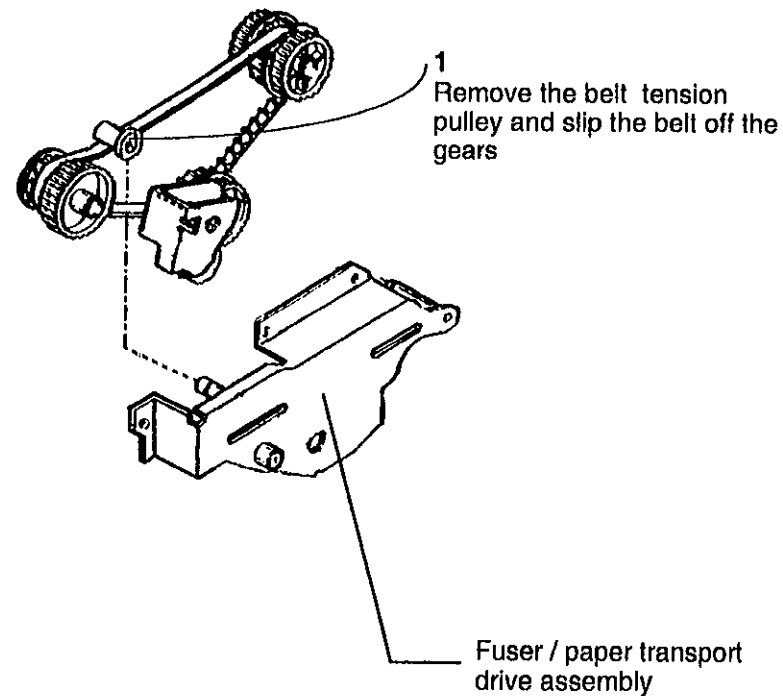

Figure 1. Removing the Transport Drive Belt
- 3 (Figure 1) Remove the Transport Drive Belt